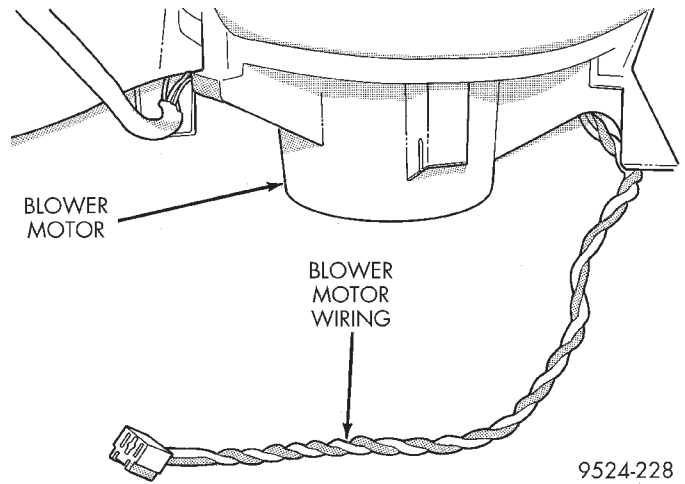

Fig. 82 Blower Motor Wiring
(11) Front air inlet door and lever is serviced with recirculation housing.
(12) Remove blower motor wiring at resistor (Fig. 82).